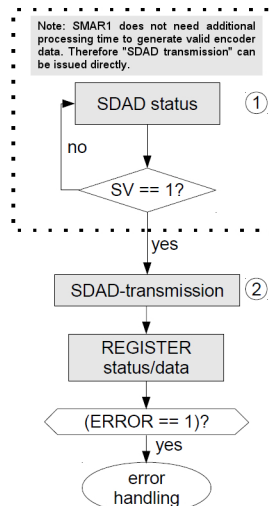

Figure 14 - Example sequence of the commands SDAD Status / SDAD transmission
Figure 14 shows the interaction of the two **SDAD status commands** and **SDAD transmission commands**. It is not necessary to start each sensor data communication with the **SDAD status command** (1). SMAR1 has no processing time and can therefore directly output valid sensor data. For this reason the command sequence can start with **SDAD transmission command** (2). Following this, the **REGISTER status / data command** should be executed to detect an unsuccessful SPI communication.